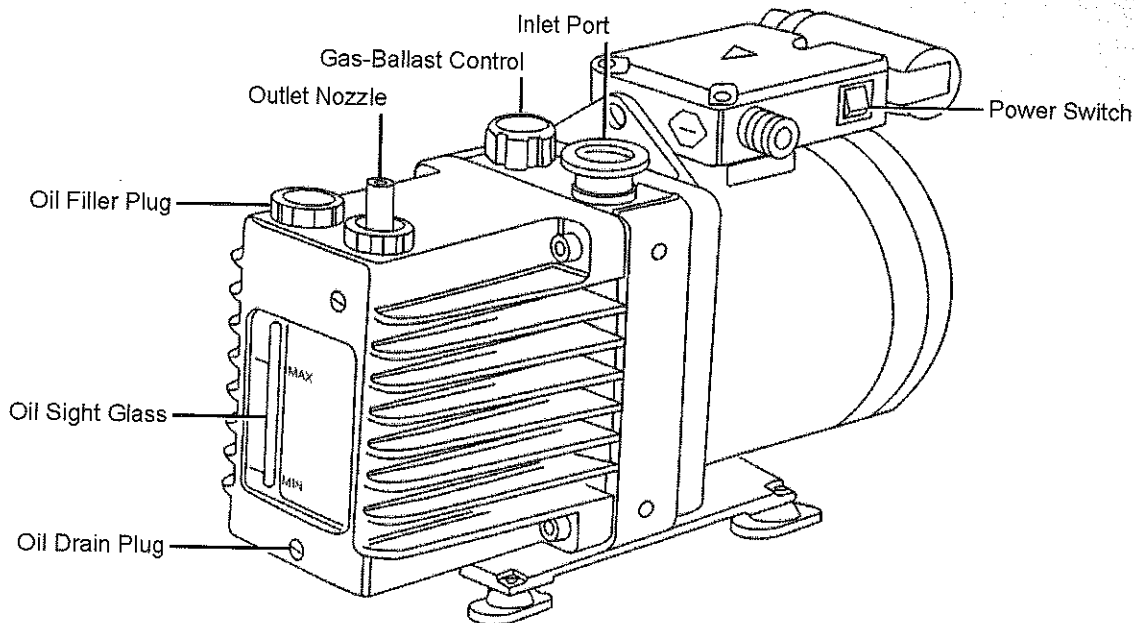

Figure 7-4 Rotary Pump
2. Operate the gas-ballast control (Figure 7-4).
The rotary pump oil level appears in the oil level sight glass on the pump (see Figure 7-4).
6. Place an object under the motor to tilt the pump toward the side on which the oil drain plug is located (see Figure 7-4).